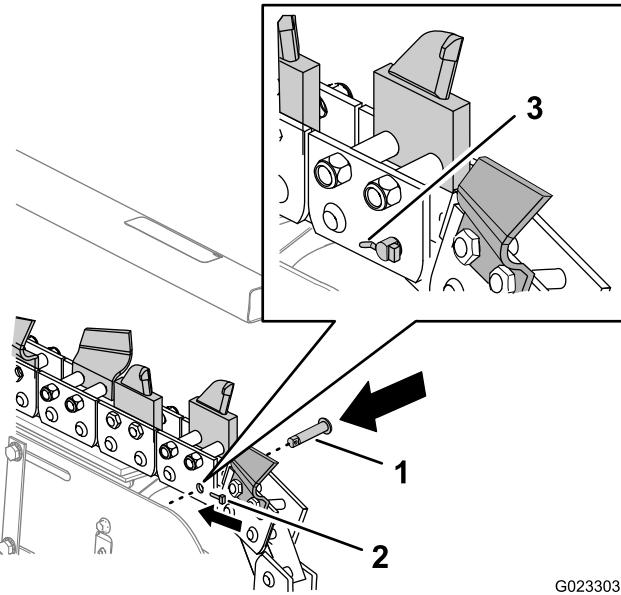

Figure 42
2. Rotate the digging chain until the master pin is positioned at the top of the idler wheel of the boom (Figure 42).
4. Straighten or cut off the tail of the safety pin and remove the pin (Figure 42).
5. Remove the master pin and the roller for the master pin (Figure 42).
- 4. Align the hole of a link roller with the holes in the inner plates at the end of the chain (Figure 42).
- 5. Align the holes in the inner plates and the roller of the chain with the holes in the outer plates of the other end of the chain (Figure 42).
- 6. Align the master pin with the hole in the pin parallel with the chain plates forward of the idler wheel (Figure 42).
- 8. Insert the safety pin through the master pin with the head of the pin toward the idler wheel (Figure 42).
- 10. Bend the tail of the safety pin down 30° to 45° (Figure 42).